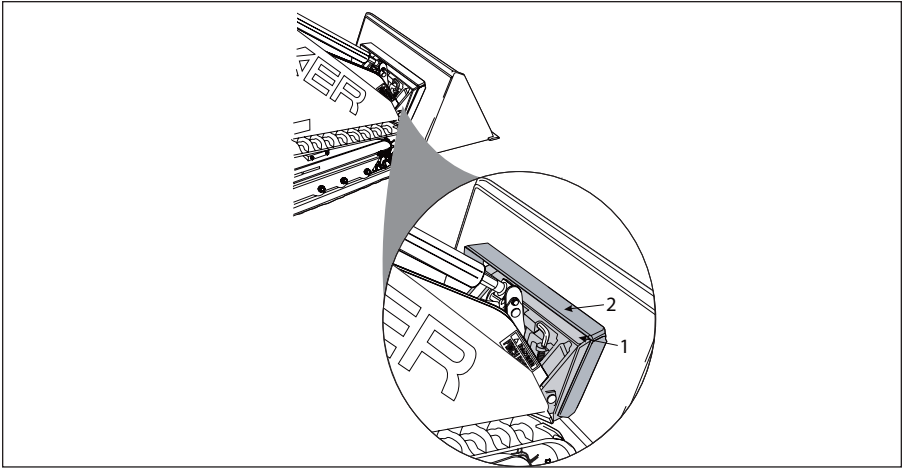

Figure 3-28 Attachment Installed
4. When the top of the attachment mounting plate (Item 1, **Figure 3-28**) is firmly seated in the attachment mounting bracket (Item 2, **Figure 3-28**), tilt the attachment mounting plate backward slightly to allow the lower edge of the attachment mounting bracket to slide into place on the attachment mounting plate.